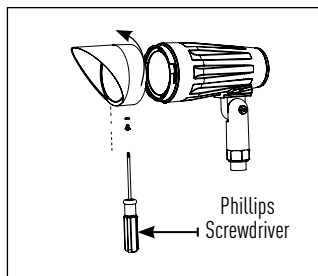

Figure 6
1. Loosen set screw and rotate cap a quarter turn to remove (Fig. 6).